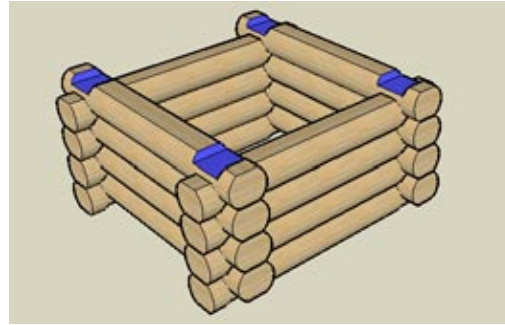

Figure 3-78
2. Copy both stacks to the other notches (Figure 3-78).